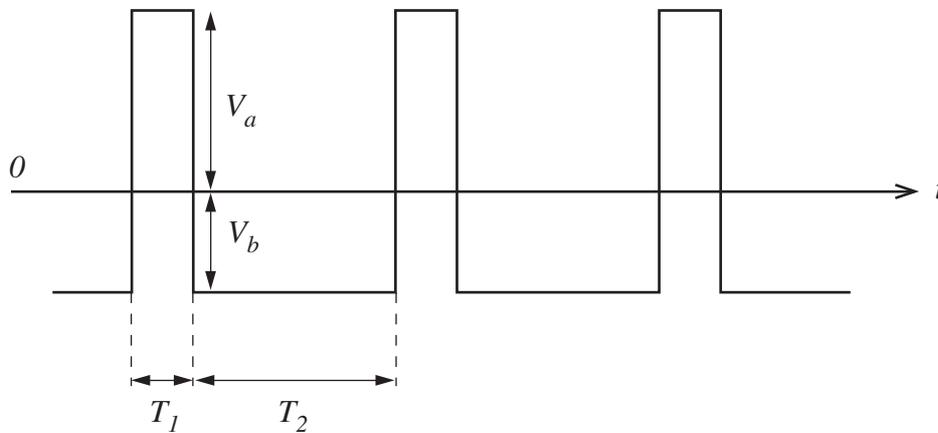

FIG. 17
8. The wave-form of FIGURE 17 below is fed to a transformer. In order to ensure that the transformer does not saturate, what is the relationship between V_a , V_b , T_1 and T_2 ?